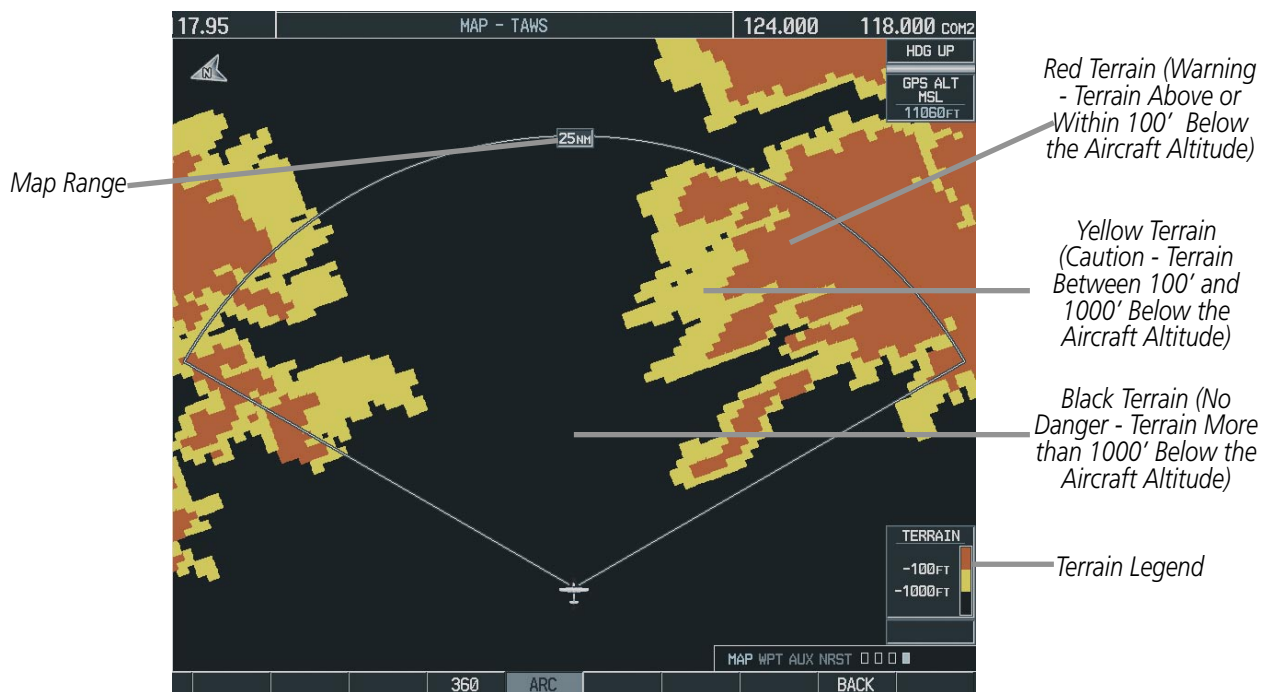

Figure 6-48 TAWS Page (ARC View)
- ARC (120°) View—Displays terrain ahead of and 60° to either side of the aircraft flight path (Figure 6-48).